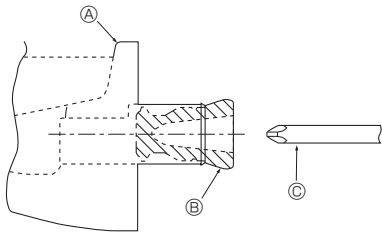

Fig. 5-1
### 5.1. Drainage piping work (Fig. 5-1)
- For left side tubing, be sure to insert the rubber plug into the right drain port. (Fig. 5-1)